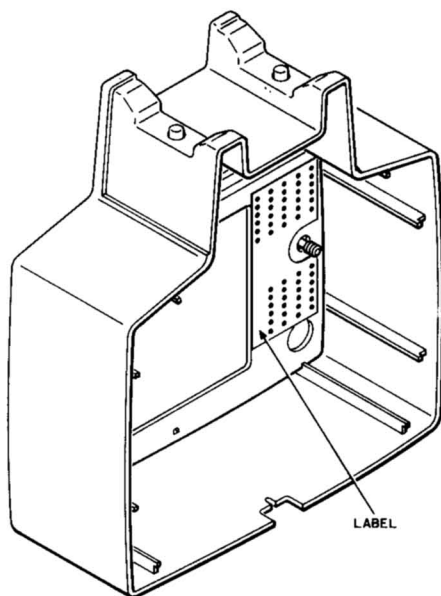

Fig. 16—Connecting Block Terminal Information
3.08 Since individual terminals are not designated on the quick-connect blocks, terminal identification is provided on the inside of the housing as a wiring guide (Fig. 16). Terminals 1-30 are on the upper block and 31-54 are on the lower block. Terminals 51-54 are spare. Use a 714B tool to terminate conductors.
4.01 For sets equipped with a 66S1-type connecting block, terminate IW cable as shown in Fig. 26 and 27 using the terminal identification information inside the housing as a guide in locating terminal numbers (Fig. 16).